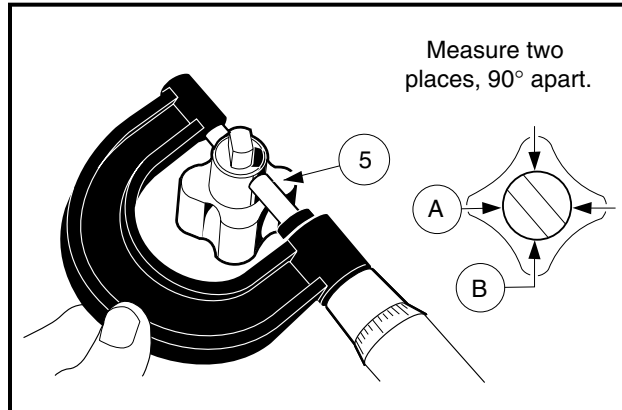

Figure 13-66 Measure Pump Shaft Bearing Surface
- 4.1. Measure the pump shaft bearing surface. Replace both rotors as a set if the measurement is less than 0.4971 inch (12.627 mm) (**Figure 13-66, Page 13-34**).